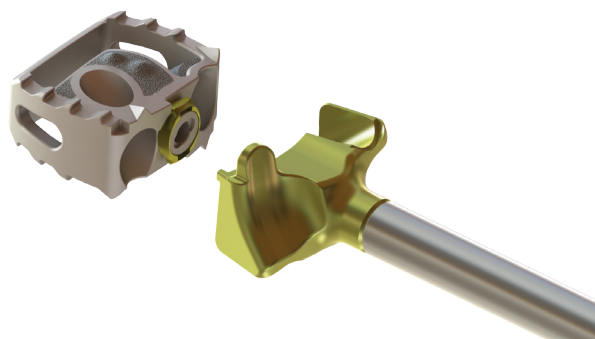

Fig. 1 ▲
Insert the Inserter Inner Shaft into the cannulation of the appropriate sized Awl Guide Inserter and rotate clockwise until past the retaining threads in the guide. (Fig. 1)
(Fig. 1)
The Low Profile (LP) Inserter may also be used to implant the spacer. Attach the spacer to the appropriate sized Low Profile Inserter using the Inserter Inner Rod Shaft in the same manner as described for the Awl Guide Inserter (see Step 6, Fig. 1). Pack the spacer with the desired graft material. (Fig. 20)